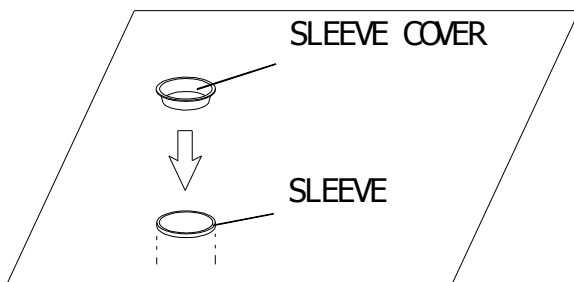

FIG. 8
8. Use the enclosed sleeves for easy removal of posts for resurfacing, maintenance, posts repair or replacement, and alternate uses of the court. During the off season or when winterizing, it is best to remove net posts and plug the sleeves with sleeve covers to prevent moisture and dirt from falling in. (FIG. 8)